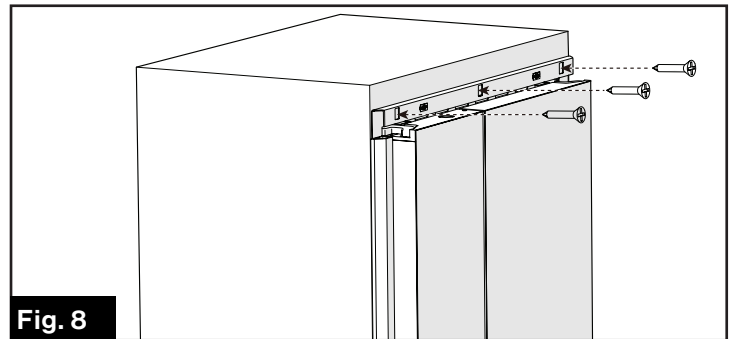
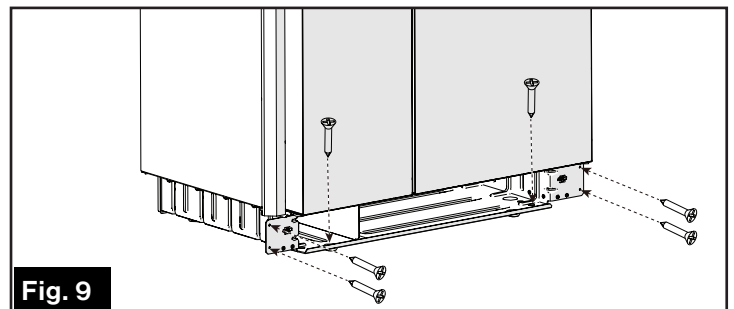

Fig. 8
Fig. 9
6. Fix the refrigerator into the enclosure through the mounting flange using 9 self-tapping screws (ST 4.8 *19). (Fig. 8 and Fig. 9)